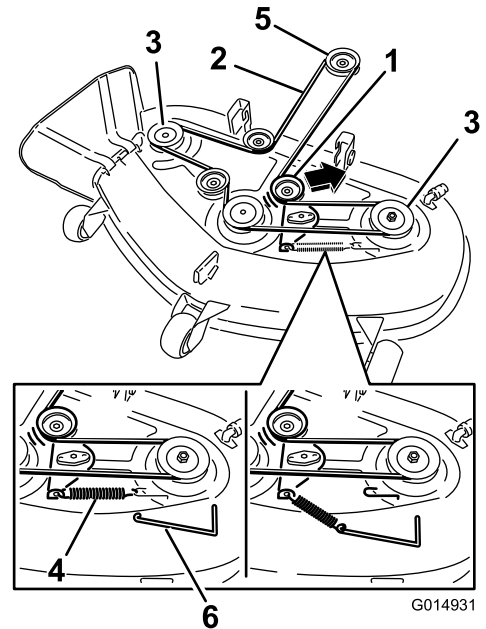

Figure 58
5. Route the new belt around the engine pulley and mower pulleys (Figure 58).
6. Using a spring removal tool, (Toro part no. 92-5771), install the idler spring over the deck hook and placing tension on the idler pulley and mower belt (Figure 58).
4. Using a spring removal tool, (Toro part no. 92-5771), remove the idler spring from the deck hook to remove tension on the idler pulley and roll the belt off of the pulleys (Figure 58).